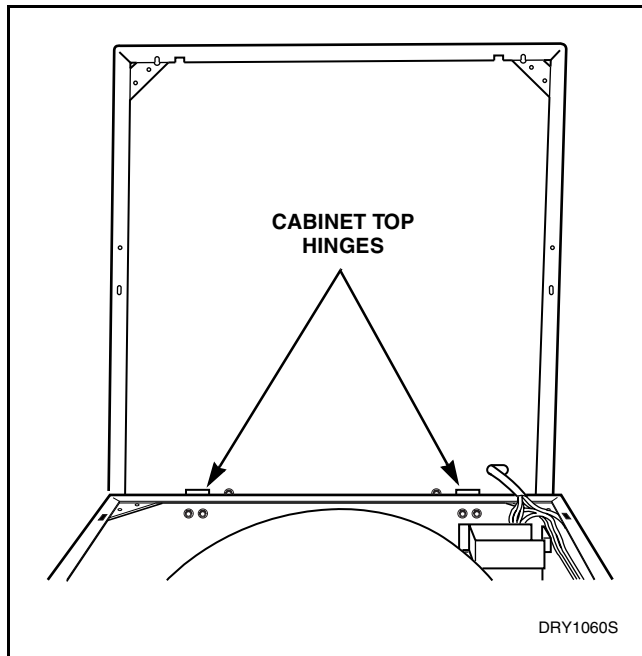

Figure 29
- Lift front of cabinet top and disengage from hinges on rear of cabinet. Refer to *Figure 29*.
- e. Raise front of cabinet top, hinging it on the rear hold-down brackets. Refer to *Figure 29*.